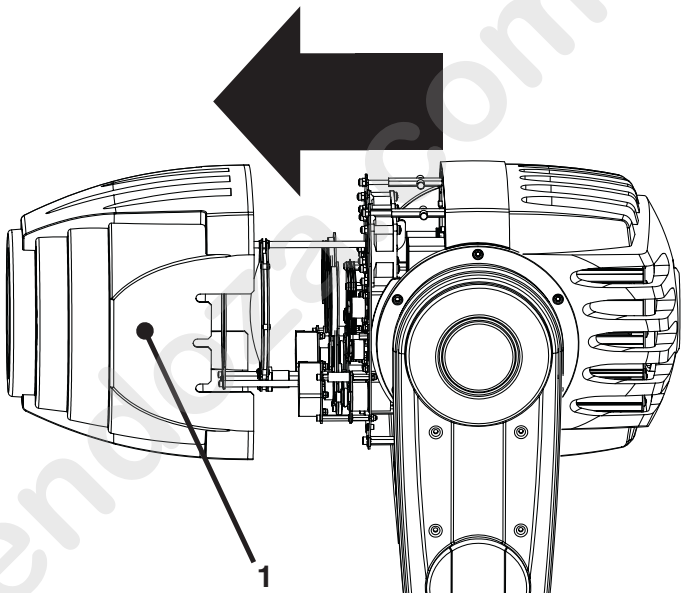

Fig. 2
- 2. Remove the cover (1) in the direction indicated by the arrow (Fig. 2)